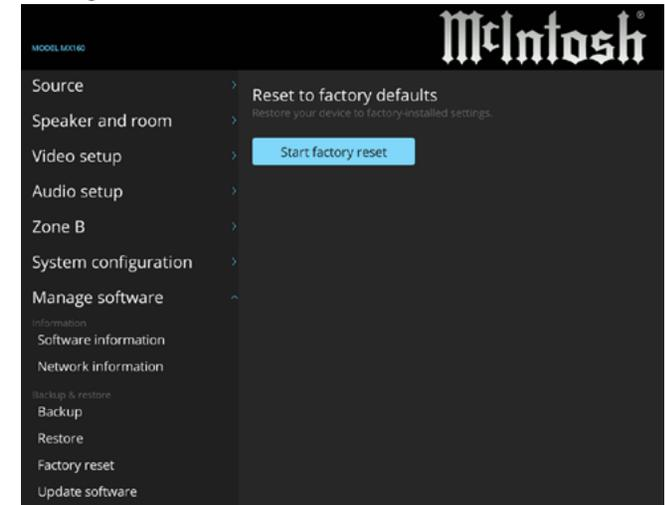

Figure 11
5. Press the Right ► Directional Push-button to Highlight the “Start factory reset”. Refer to figure 11.